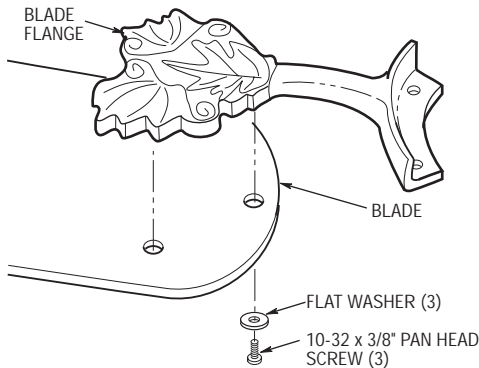

Figure 8
- 12. Use three 10-32 x 3/8" pan head screws and flat washers (supplied) to secure flange to blade (Figure 8). Repeat for the remaining four blades.